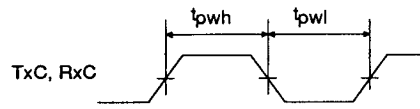

Figure 2. Clock Signal Timing
9. Duty cycle is (t_{pwh}/(t_{pwh} + t_{pwl})) * 100%. See Figure 2.